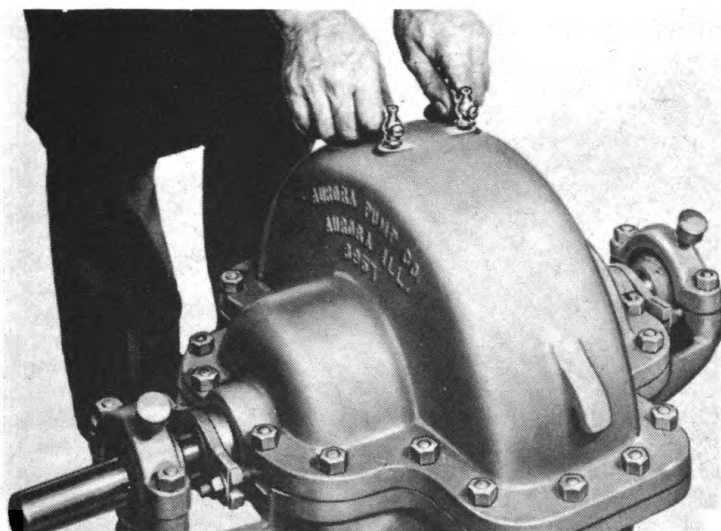

Figure 17—Open Petcocks to Release Air When Priming
a. **Fill the pump with liquid.** (This is called priming.) Before starting the pump the case and suction pipe must be completely filled with liquid for unless this is done the pump will not operate as air will be pumped instead of water. This can be accomplished by filling the casing and suction pipe with liquid. Open the two petcocks (figure 17) at the top of the pump casing in order to release the air which the liquid is displacing in the suction line. After the suction line and pump casing have been filled with liquid no further priming will be necessary and pumping action will be automatic.